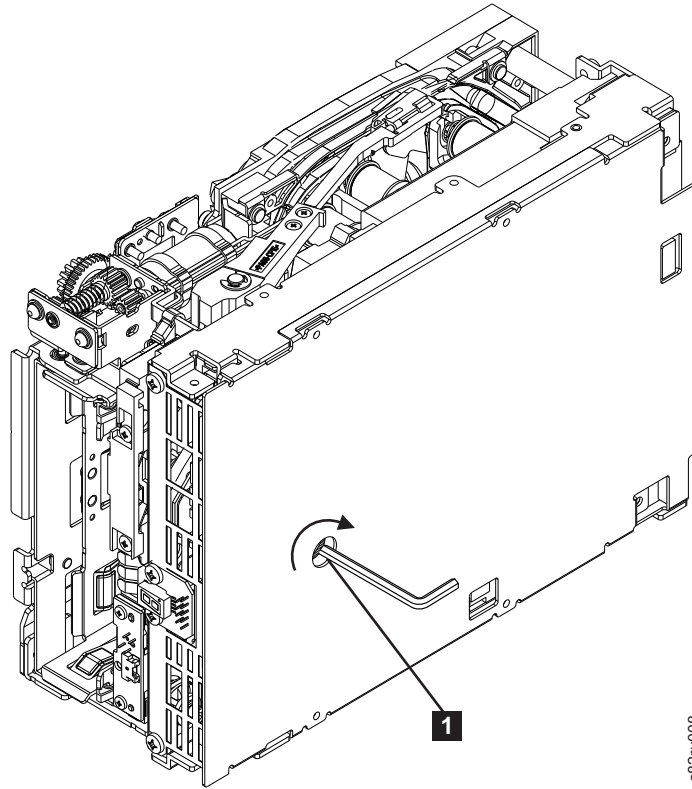

Figure E-13. Using hex wrench to rewind tape into cartridge
2. From the bottom of the drive, locate the access hole (**1** in Figure E-13).
Note: Be sure to keep tension on the tape as the LBA is drawn into the cartridge by using a hex wrench as shown in Figure E-13 on page E-14.